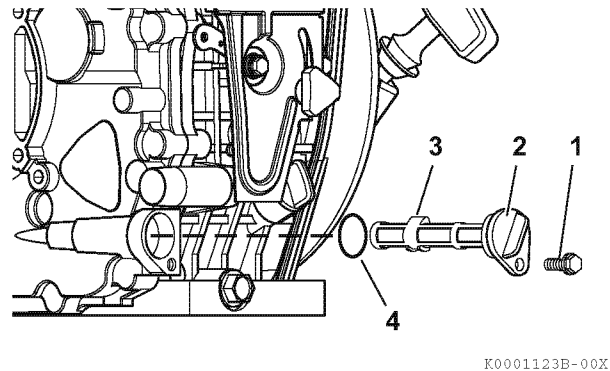

Figure 40
1. Remove the oil filter retaining bolt (1, **Figure 40**).
3. Pull the oil filter cap (2, **Figure 40**) out and remove the oil filter (3, **Figure 40**).
5. Lubricate the O-ring (4, **Figure 40**) with oil and reinstall the oil filter (3, **Figure 40**).
6. Make sure the oil filter cap (2, **Figure 40**) is fully seated.
7. Reinstall and tighten the oil filter retaining bolt (1, **Figure 40**).